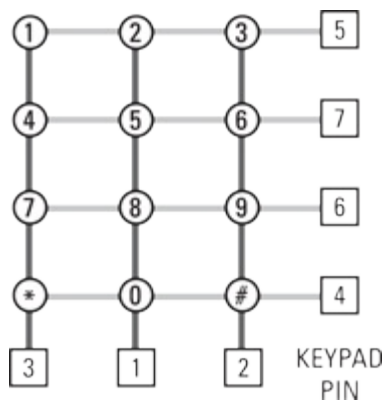

Figure 8-2: Pin connections for the matrix keypad.
Manufacturers assign different keypad output pins to the rows and columns. Two of the commonly available keypads are listed previously and are used in the sample code. You can see how they are laid out in Figure 8-2. If your keypad is different, you'll need to test it or read the keypad's datasheet to determine how to connect your keypad's output pins to your Arduino's digital pins. I show you how to test your keypad later in the chapter.
1. Make a keypad diagram like the one in Figure 8-2, but with no numbers.